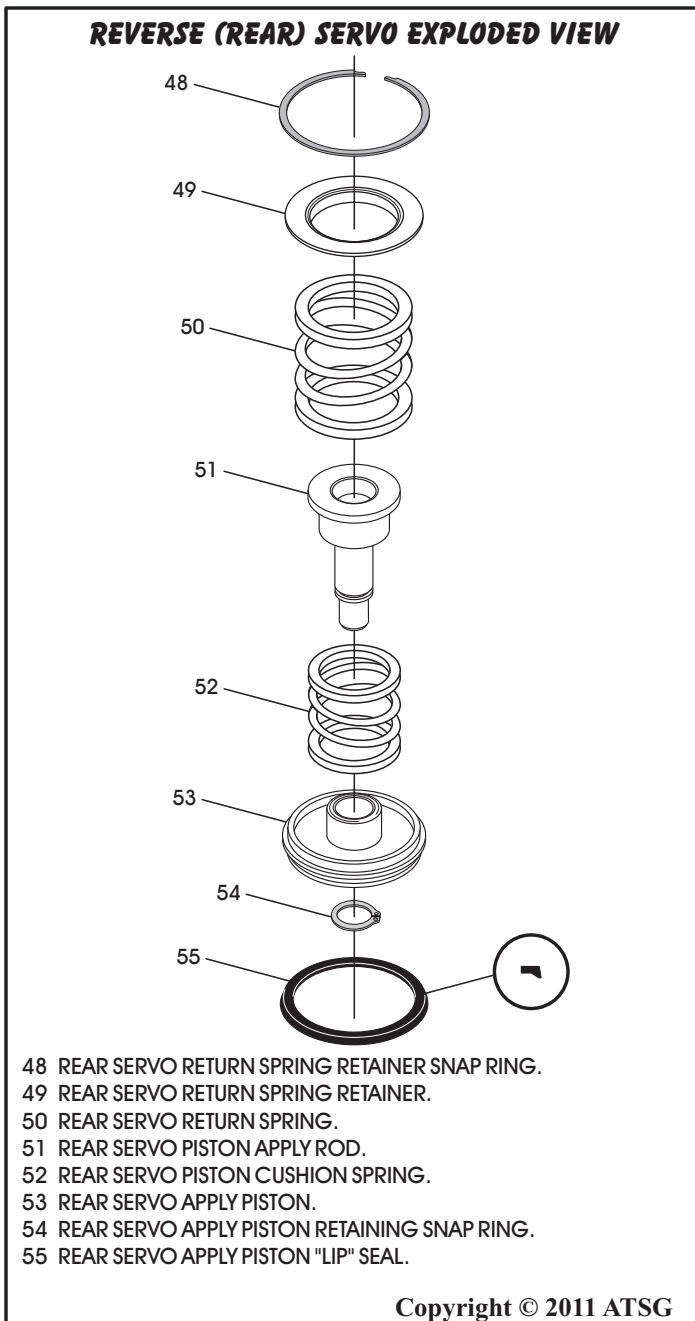

Figure 92
14. Assemble rear servo piston, cushion spring and apply rod, as shown in Figure 92, and install the small snap ring.
15. Install new lip seal on rear servo piston with lip facing direction shown in Figure 92, and lube with Trans-Jel®.